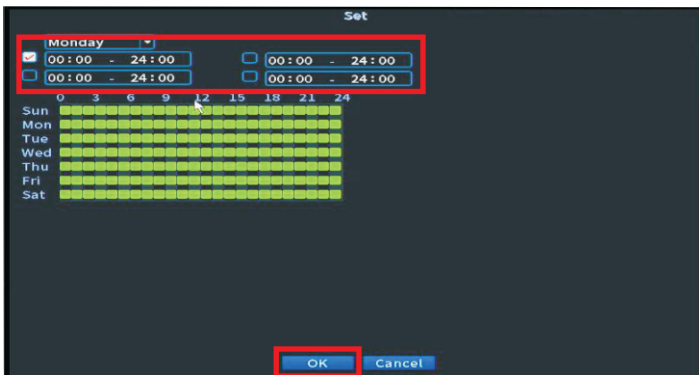

Figure 6. Set the day and time to activate Vehicle Detection
- Select and set the day and time for the preferred the Vehicle Detection to be activated and click "OK". See Figure 6